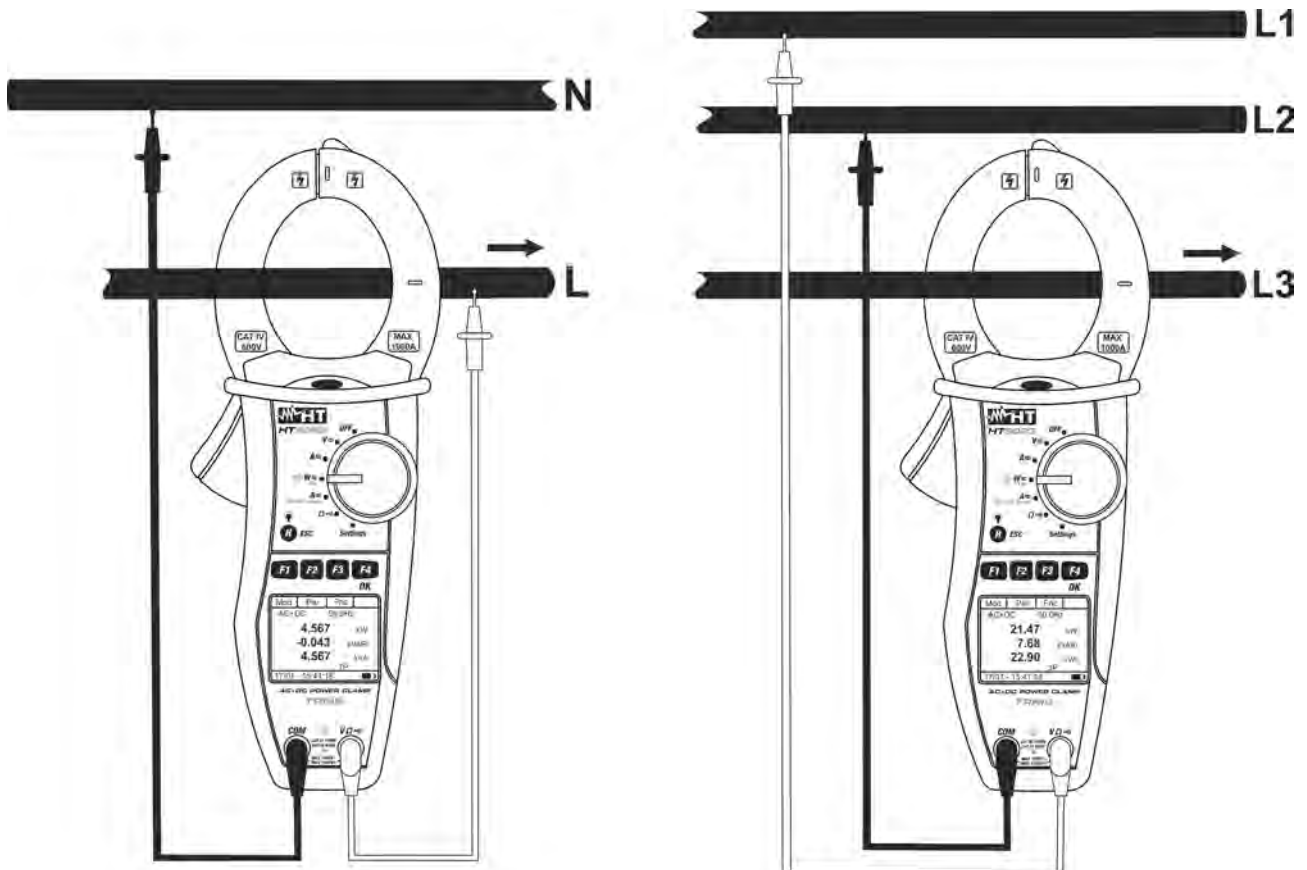

Fig. 13: AC/AC+DC power measure on Single phase and balanced Three phase systems
6. Connect red cable to input lead **VΩ⁾⁾⁾** and black cable to input lead **COM** then perform the connection as indicated in Fig. 13 depending on the type of system under test. Put the phase cable into the clamp jaws respecting the direction of current indicated by the arrow (see Fig. 13). Connect the cable to the middle of the clamp jaws, in order to get accurate measurements. Use the marks as a reference (see Fig. 2)